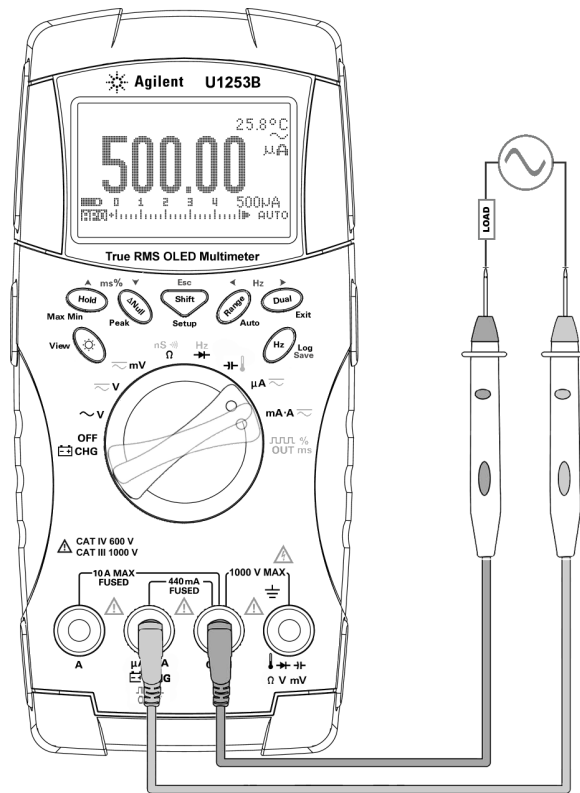

Figure 2-3 Measuring μA and mA current
- 3 Connect the red and black test leads to input terminals $\mu\text{A}\cdot\text{mA}$ (red) and COM (black) respectively (refer to Figure 2-3 on page 34).
- 2 Connect the probes as shown in Figure 2-3 on page 34.